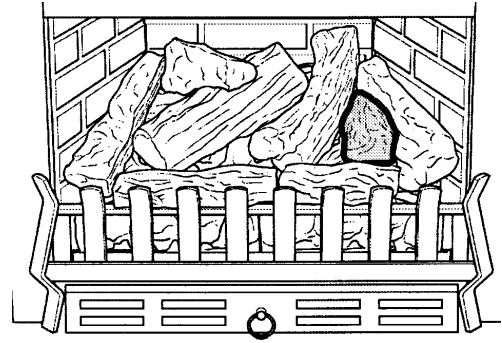

Figure 18 "G" log position
- Now take the 'G' log and insert the thinner end between the 'D' log and the right hand 'C' log. The front of the 'G' log should be level with the front 'B' log. See figure 18.